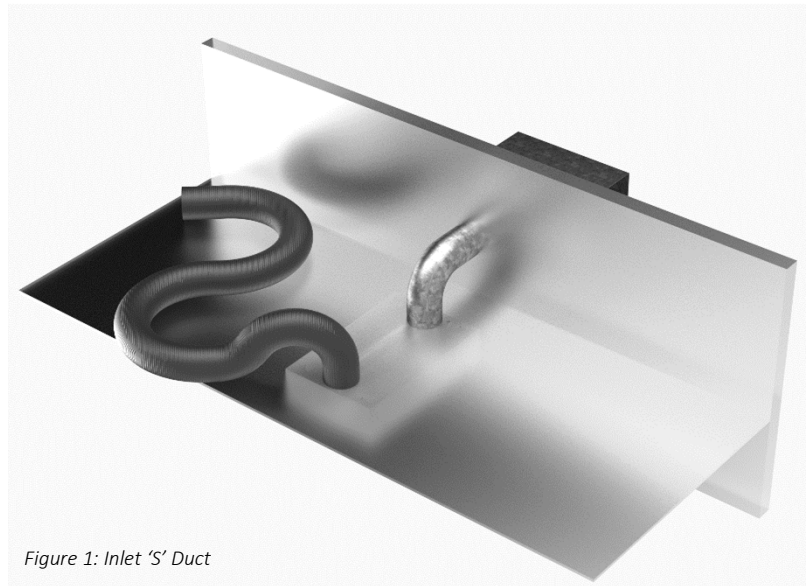

Figure 1: Inlet ‘S’ Duct
3. From a ceiling space above the enclosure, using a length of insulated duct hose laid in an ‘S’ configuration to muffle projector noise (figure 1).